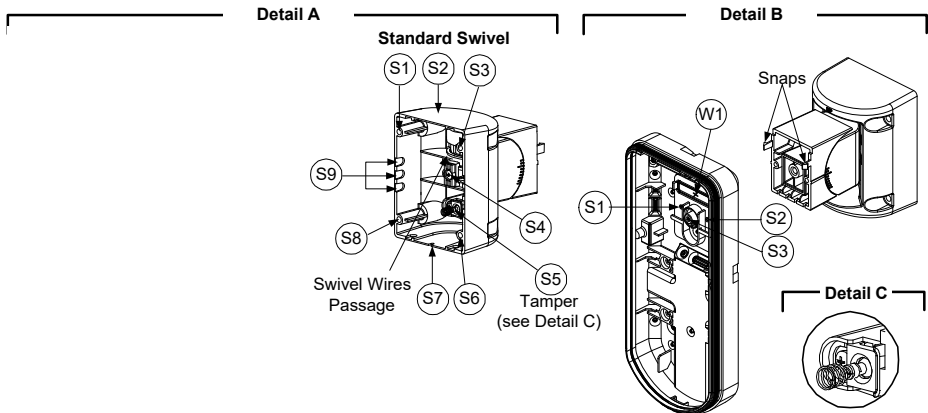

Figure 7
3. Open knockouts on external base (Figure 7, Detail B)
4. On the swivel accessory remove the required swivel cable wiring knockout S2, S7 or S9 (Figure 7, Detail A).
5. Remove back tamper from the internal base (see "Changing Back Tamper Position" paragraph) and connect it to S5 (Figure 7, Detail A) on the Standard Swivel.
- a. Insert external cable wiring through knockouts S2, S7 or S9 and extract them (including the tamper wires) through the Swivel Wires Passage (Figure 7, Detail B).
7. Insert tamper wires and external cable wiring from Standard Swivel through knockout W1 on the external base (Figure 7, Detail B).